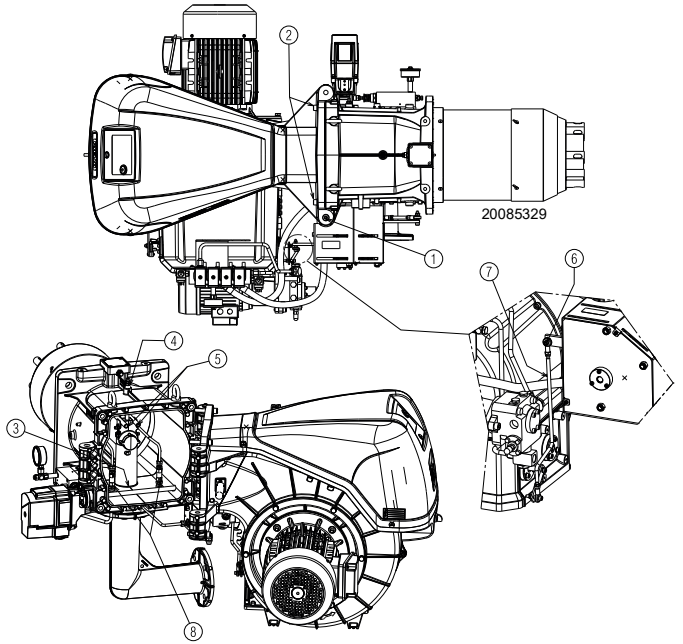

Fig. 14
The burner leaves the factory set for opening to the right, therefore maintaining the pin 1)(Fig. 14) in its housing.
- A** remove the screw 6) releasing the tie-rod 7)(Fig. 14);
- D** fully open the burner as in Fig. 14;
To open the burner from the opposite side, before removing the pin 1)(Fig. 14), make sure that the 4 screws 2) are tight. Then shift the pin 1) to the opposite side, only then is it possible to remove the screws 2); then proceed as described in point C.